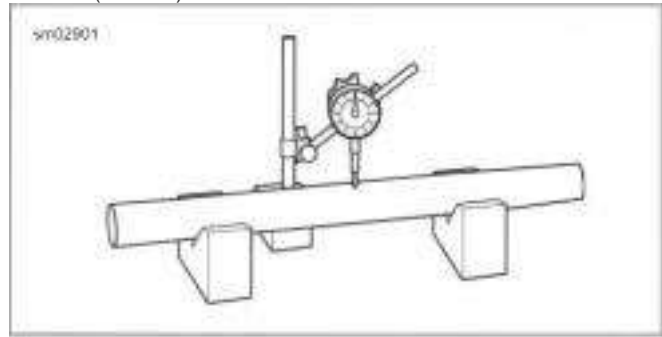

Figure 3-77. Measure Fork Tube Runout
6. See Figure 3-77. Check runout with a dial indicator.